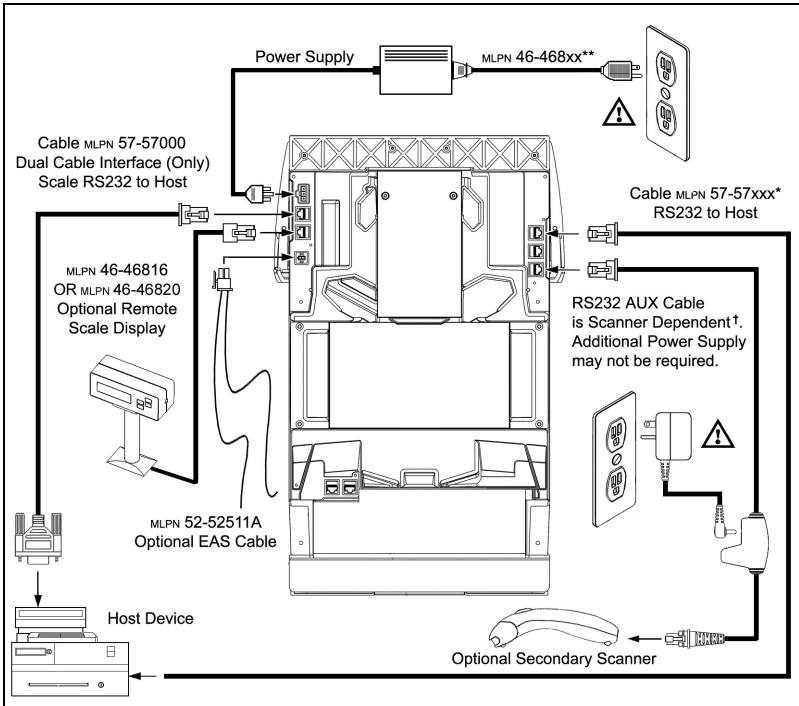

Figure 39. Secondary Scanner Cable Installation Schematic
2. Connect the **round** end of the RS232 AUX cable to the RS232 socket of the **secondary** scanner (see figure 39 on page 52).
Connect the scale/host cable to the 1st 10-pin socket on the bottom of the scanner next to the 3-pin Molex plug. Refer to figure 39 on page 52.